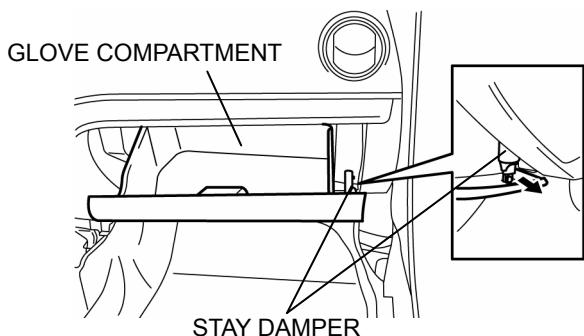

FIGURE 8
8. Remove the glove compartment. (refer to Figure 8 to 10).
- A. Pull the stay damper in the direction of the arrow shown in the figure, and detach the connecting part between the glove compartment and the stay damper. (refer to Figures 8)